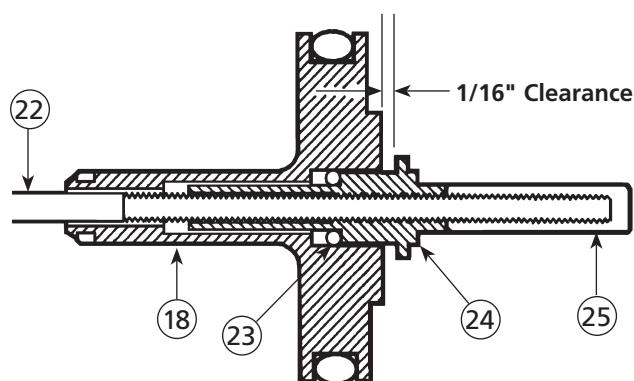

Figure 1
A 1/16" gap between the air piston assembly (18) and needle body (24) should be maintained (see figure 1). This will create needle motion that will allow adequate air flow before the fluid starts flowing. The gap may be adjusted by partially removing the material needle (22),